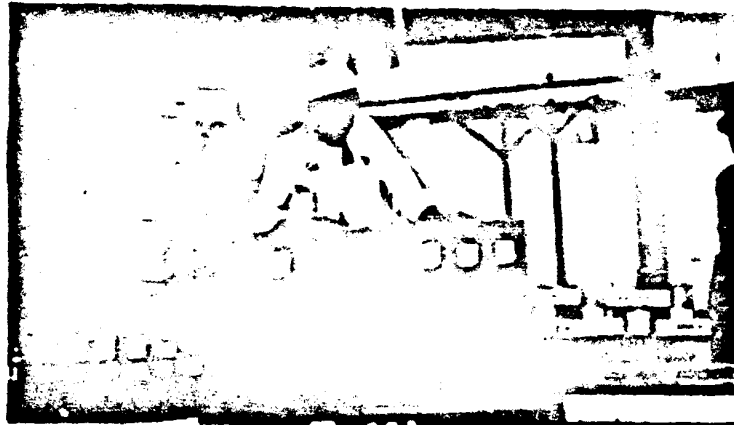

Fig. 4
- b. Developing the ability to judge the value of paints by considering their contents and formulation. (Fig. 4, 2, 5, 6, 7 and 14)
4. To stimulate and develop within the 4-H Club members originality, clear thinking, sound reasoning and scientific approach in meeting farm problems on painting and building maintenance. (Fig. 4, 3 and 10)